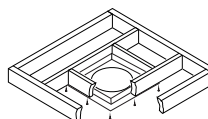

Figure 20 - Installing Firestop
1. Cut a $10\frac{3}{4}$ " square hole in the ceiling using the locating hole as a center point. The opening should be framed to $10\frac{3}{4}$ " x $10\frac{3}{4}$ " inside dimensions, as shown in Figure 11 on page 11 using framing lumber the same size as the ceiling joists. If the area above the ceiling is an insulated ceiling, you must use the firestop thimble and special firestop included with the kit to prevent insulation from contacting the vent pipe (see *Thimble Installation*, page 16). Otherwise, install firestop below the framed hole. The firestop should be installed with no less than three nails per side (see Figure 20).
- Refit assembly into opening and attach to framing with 8 phillips screws provided (see Figure 20, page 15).